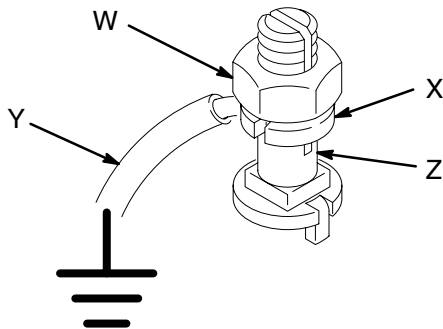

Fig. 1
1. *Pump:* use a ground wire and clamp. See Fig. 1. Loosen the grounding lug locknut (W) and washer (X). Insert one end of a 1.5 mm² (12 ga) minimum ground wire (Y) into the slot in lug (Z) and tighten the locknut securely. Connect the other end of the wire to a true earth ground. Order Part No. 237–569 Ground Wire and Clamp.